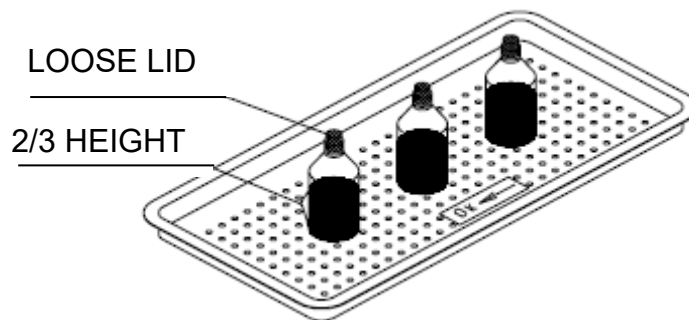

Figure1
2. Use only heat-proof glass. Verify that the beaker is only filled 2/3 full and the lid is on loosely to allow for expansion (see figure 1).